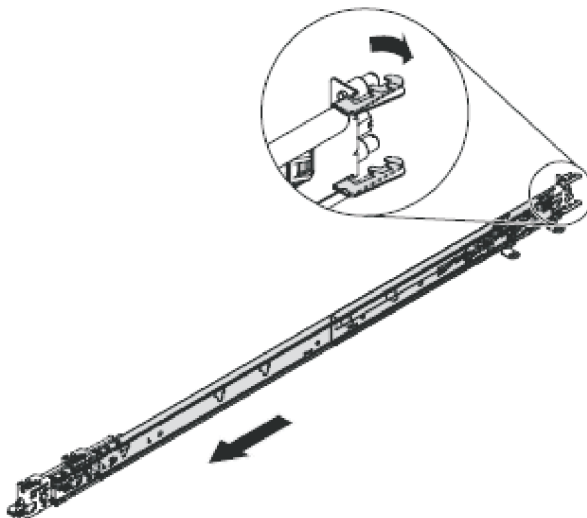

Figure 68. Opening the rear slide-rail hooks
2. Open the rear-slide-rail hooks, as shown in Figure 68.